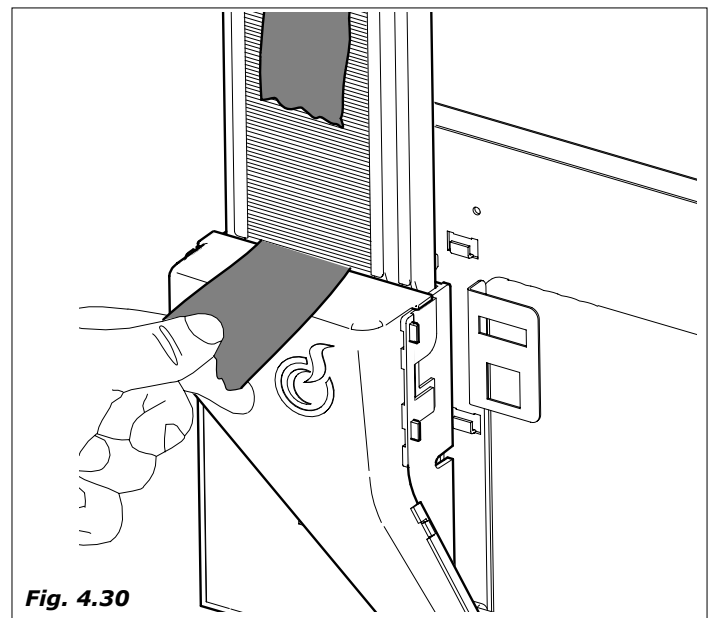

Fig. 4.30
- insert the spoons with their pack wrapping in the column and when they are positioned on the bottom cut and remove the wrapping (Fig. 4.30)